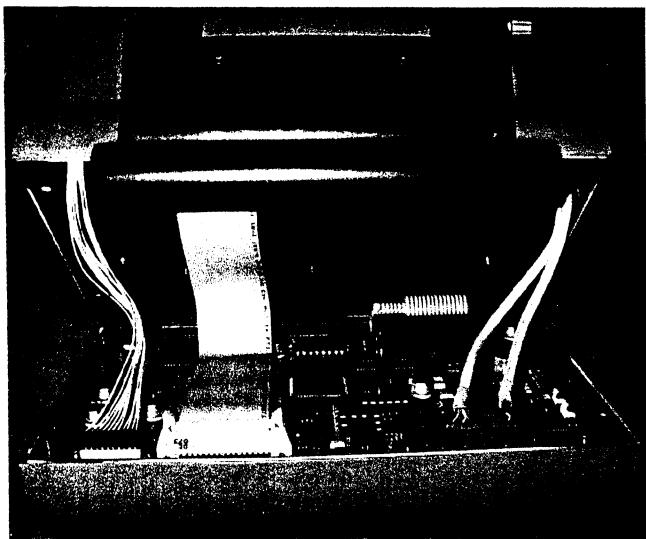

Fig. 2 Unit open
5. Remove the upper connectors Fig. 2.